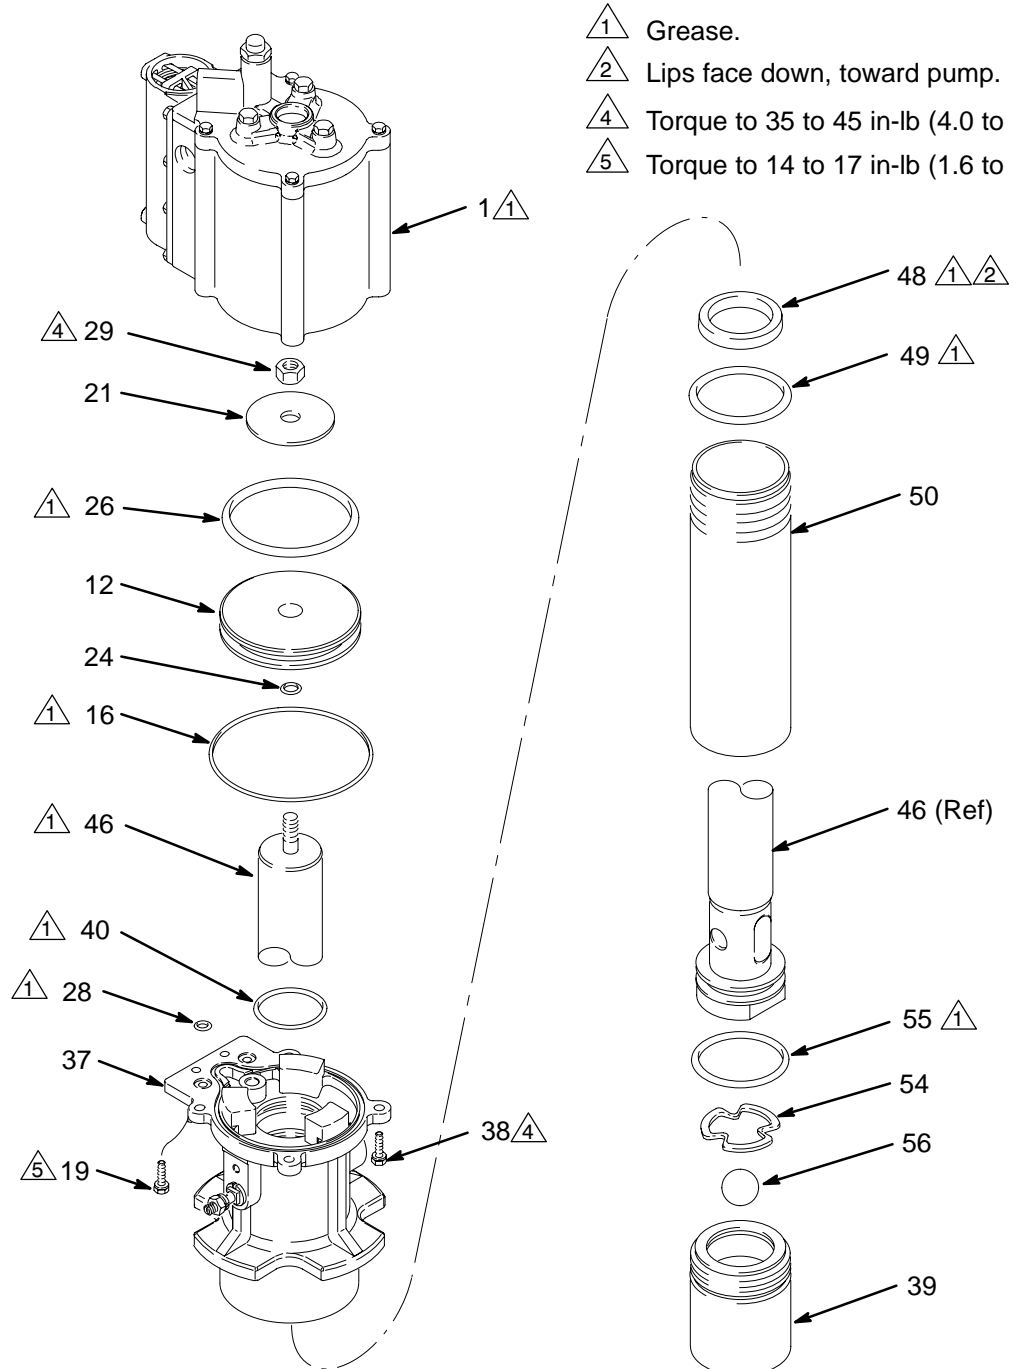
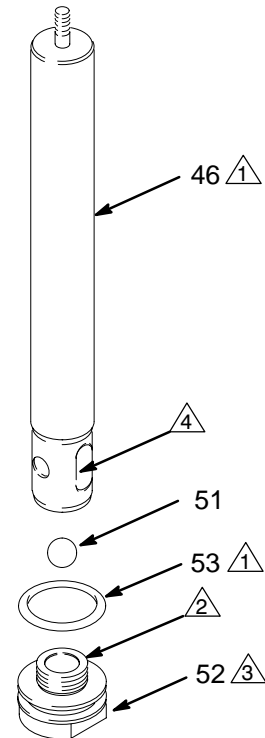

Fig. 5
Fig. 6
2. Remove the four screws (38) and two screws (19) holding the air motor base (37) to the air motor cylinder (1). Pull the cylinder off the base, remove the large o-ring (16) and two small o-rings (28), and set these parts aside. See Fig. 5.
3. Unscrew the intake valve housing (39) from the pump cylinder (50). Disassemble the intake valve.
4. Use a strap wrench on the pump cylinder (50) to loosen it from the motor base (37). Continue to unscrew the cylinder from the motor base by hand until the cylinder comes free. Pull the cylinder off the pump. See Fig. 5.
5. Hold the flats of the fluid piston (52) in a vise. Unscrew the nut (29) from the top of the displacement rod (46). Remove the washer (21), o-ring (3g), piston o-ring (26), and air motor piston (12) and set them aside. Pull the motor base (37) up off the displacement rod.
**NOTE:** To service the actuator valves, see page 18. To service the director valve (3), see page 20.
6. Using a wrench on the flats of the displacement rod (46), unscrew the rod from the piston (52). Remove the ball (51) and o-ring (53). See Fig. 6.
7. Remove the o-ring (49) and block packing (48) from the inside bottom of the motor base (37).
8. Remove the o-ring (40) from inside the base.
- △4 Flats of rod (46).
1. Grease the o-ring (40) and install it inside the top of the base. See Fig. 5.
2. Grease the block packing (48) and install it in the motor base (37). The lips of the packing must be facing down, toward the pump. Grease the o-ring (49), and install it in the bottom of the motor base (37).
3. Grease the displacement rod (46) and slide it down into the air motor base (37) so the narrow end protrudes from the top of the base.
4. Grease the o-ring (53) and install it on the fluid piston. Apply thread sealant (113500) to the piston threads. Place the piston upright in a vise with the jaws on the flats. Set the ball (51) on the piston seat. Screw the displacement rod (46) with the motor base (37) onto the piston. Using a wrench on the flats of the rod, torque to 40 to 60 ft-lb (54 to 81 N.m). See Fig. 6.
5. Install one o-ring (3g), the air motor piston (12), and the flat washer (21) on the displacement rod (46). Make sure the chamfer side of the piston (12) is facing down toward the o-ring (3g). Screw the nut (29) onto the displacement rod (46). Torque to 35 to 45 in-lb (4.0 to 5.1 N.m). Grease the large o-ring (26) and install it in the outer groove of the piston (12). See Fig. 5.
6. One end of the cylinder (50) has threads on the outside. Slide this end over the fluid piston and into the motor base (37) so the threads engage with the base. Screw the cylinder into the base by hand, then place the base in a vise with soft jaws.
7. Grease the o-ring (55) and install it on the intake valve housing (39). Install the ball (56) and ball retainer (54), and screw the valve housing securely into the cylinder (50). Use a pipe wrench on the knurled portion of the intake valve housing to tighten the valve and cylinder.
8. Remove the pump from the vise. Grease the large o-ring (16) and two small o-rings (28), and install them on the motor base (37). Grease the inside of the air motor cylinder (1), and position it on the base. Install the four screws (38) and torque to 35 to 45 in-lb (4.0 to 5.1 N.m). Install the two screws (19) and torque to 14 to 17 in-lb (1.6 to 1.9 N.m).